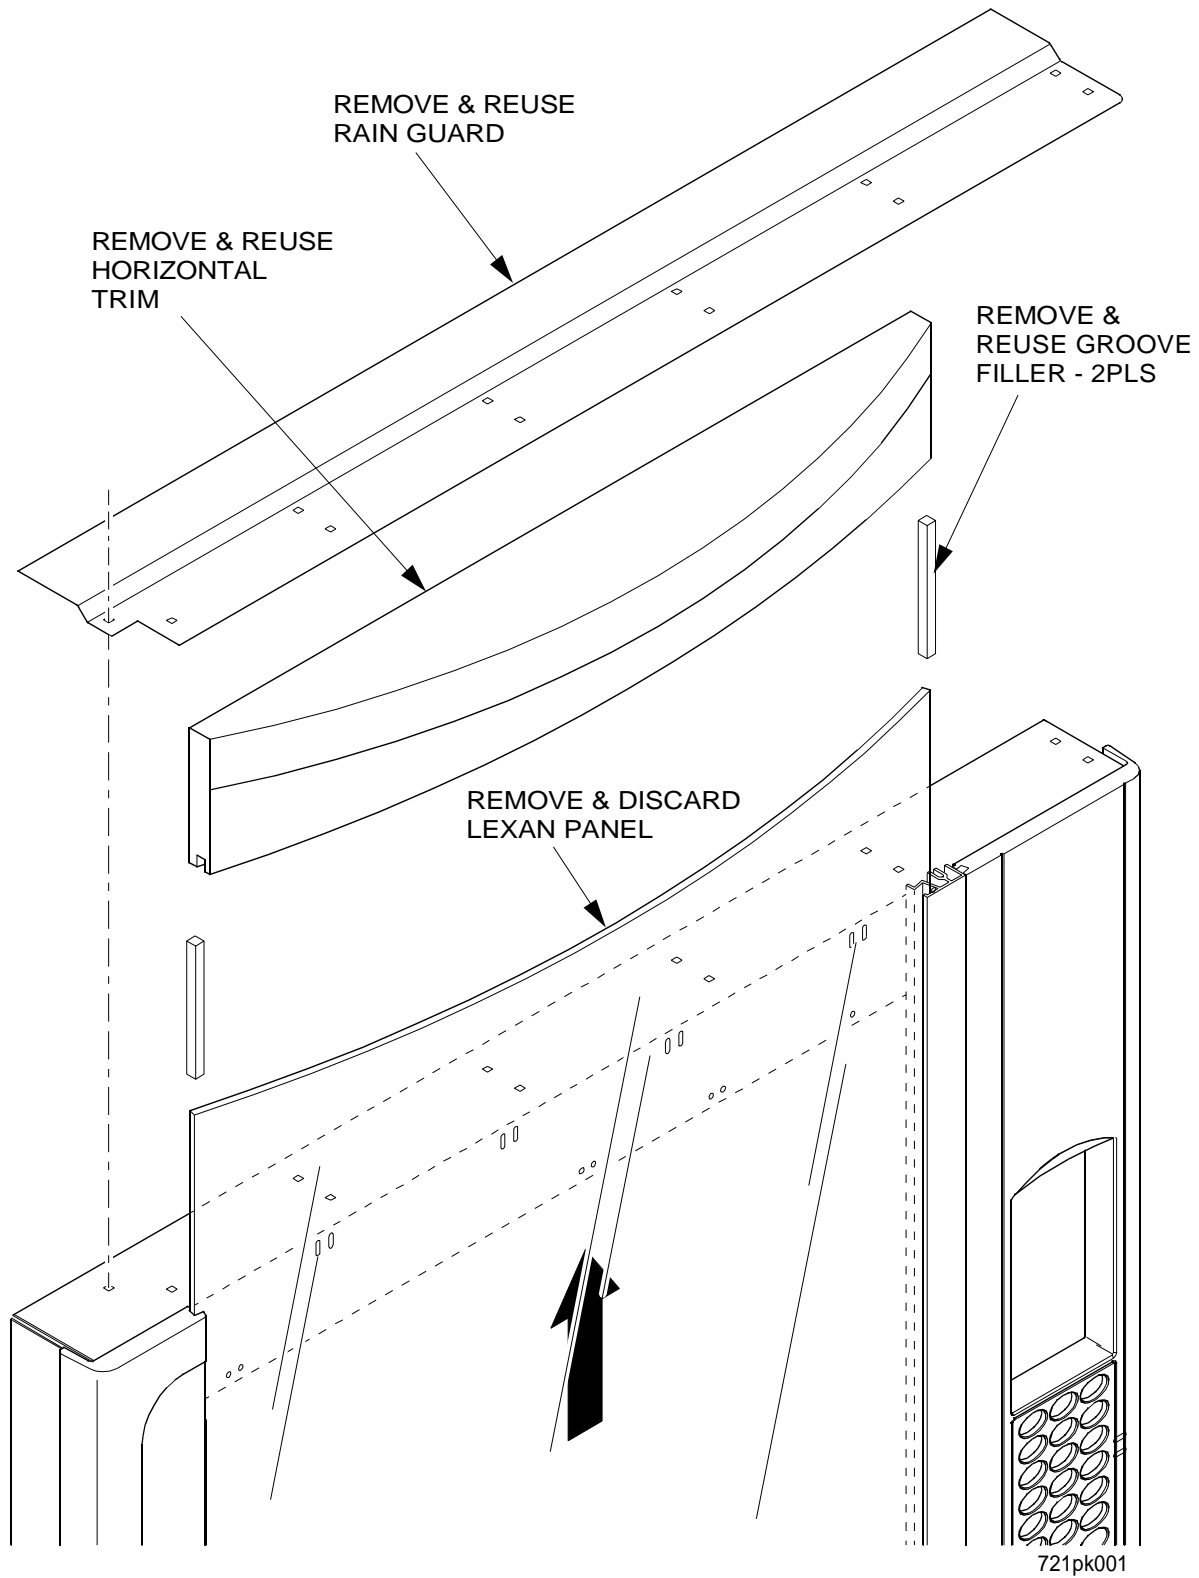

Figure 1
1. See figure 1. Remove the following items, and save them for later use: